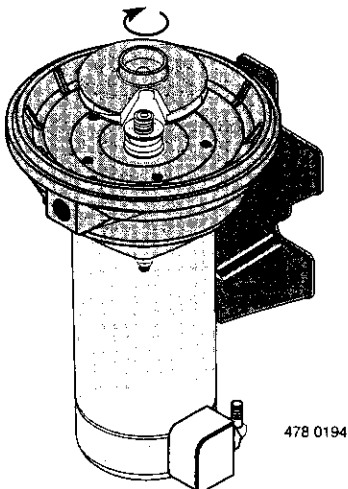

Figure 13
I. Screw impeller on shaft (clockwise) while holding shaft with 7/16" open end wrench on shaft flats. This will automatically locate seal in place. See Figure 13.